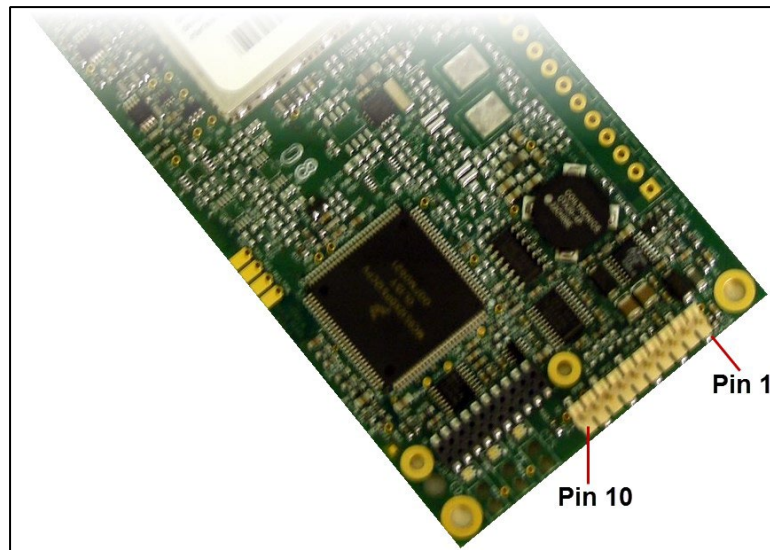

Figure 6: Pins 1 and 10
4. To view the **Setup** menu in board level radios: • Short pins 2 & 4 (Brown to Black) on the white 10 pin header next to the LEDs. Figure6 • If using a data cable, press the Setup button. • If using the gray ribbon diagnostic cable or the black diagnostic cable, type <Shift+U>.
- Short pins 2 & 4 (Brown to Black) on the white 10 pin header next to the LEDs. Figure 6 • If using a data cable, press the Setup button.